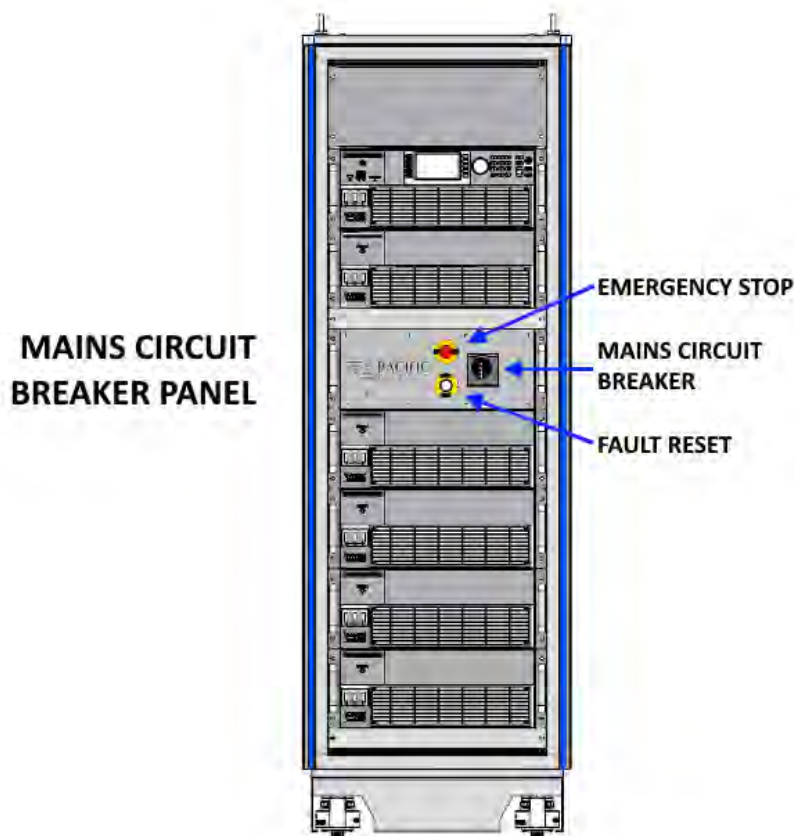

Figure 5-20: Cabinet System Mains CB Panel Location
2. By using the front panel mounted circuit breakers on the master and auxiliary units. Turn On and Turn Off sequence recommendations are listed below and illustrated in Figure 5-20. The sequence is not critical as long as units are turned on within 15 seconds of each other. If more time elapses, an error may be displayed and the master/aux discovery process should be restarted from the PARALLEL UNITS screen in the SYSTEM menu. Refer to section 6.8.7, "PARALLEL UNITS Screen".